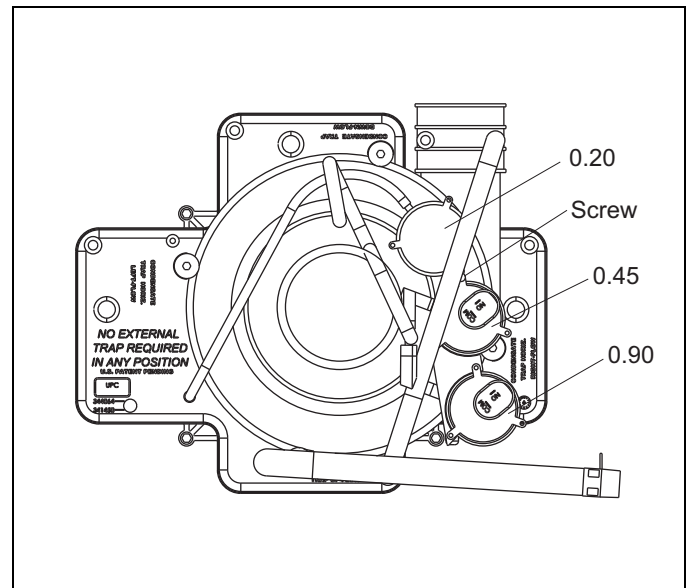

FIGURE 1: Pressure Switch Location, New Design
*Units produced before the design change will have the high pressure switch (0.90) located between pressure switches (0.45) and (0.20). Units produced after the design change, the (0.90) and the (0.45) pressure switches will be reversed. See Figure 1.*